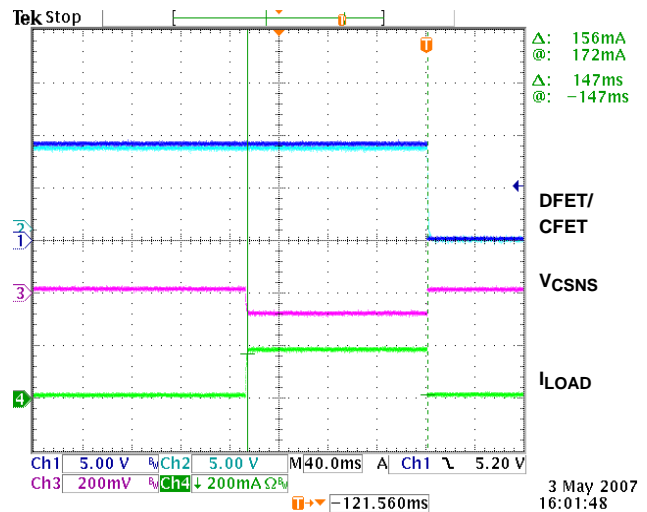

FIGURE 10. CHARGE OVERCURRENT TEST (0.1V THRESHOLD, 160ms TIME DELAY, 0.5Ω SENSE RESISTOR)
- Turn the charge emulation power supply output on. This causes the ISL9216 to detect an overcurrent condition, which turns the FETs off. Figure 10 shows a charge overcurrent condition where the charger turns on with current too high.